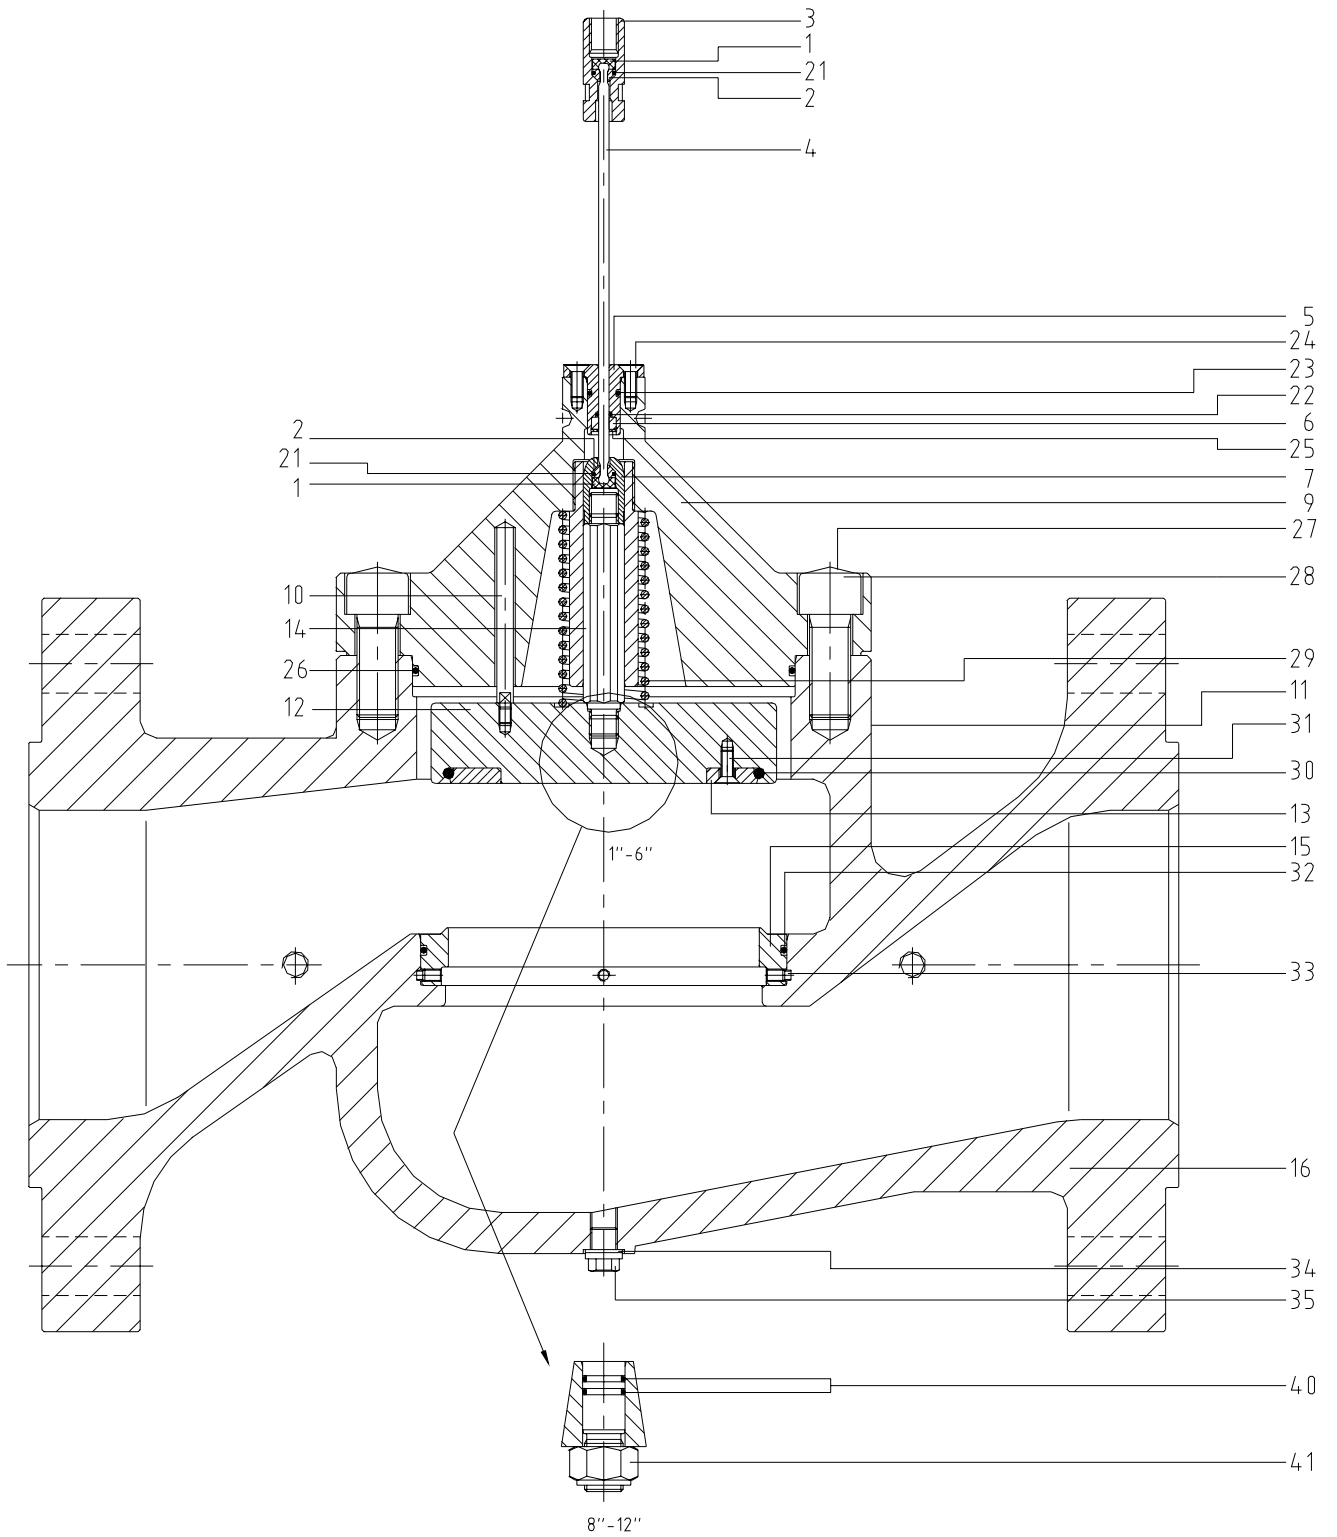

Figure 7a: Valve and valve body HSV086
(see also figure 7a)
1) Not included in figure 7a